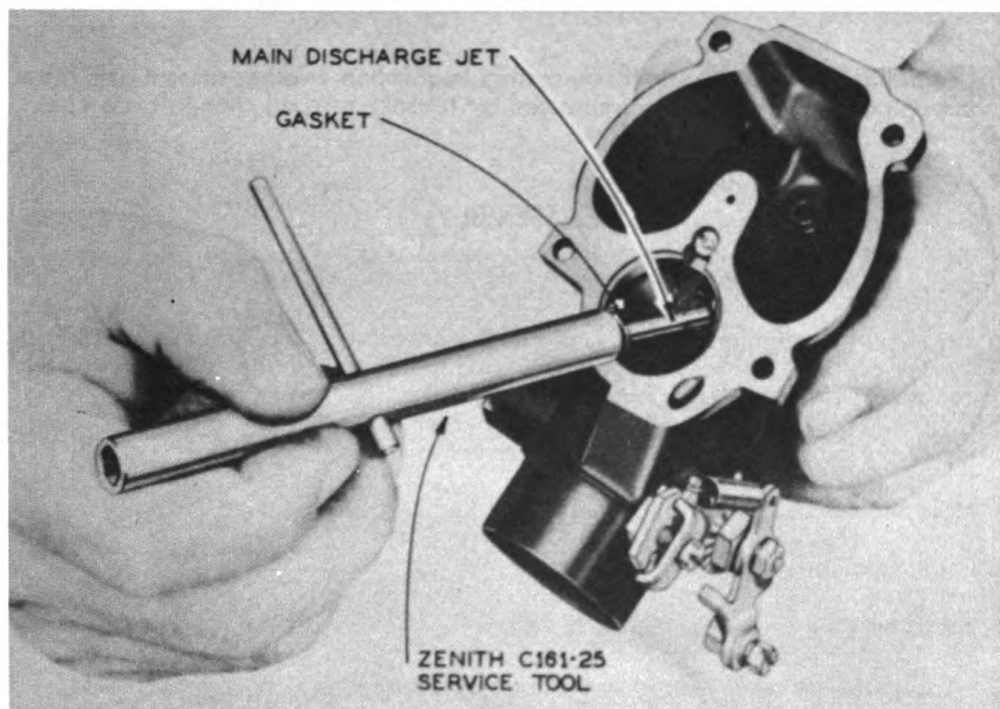

Fig. 110
16. Remove Main Discharge Jet (3) and gasket using C161-25 Service Tool (Fig. 110)
9. Replace Main Discharge Jet (3) and new gasket using C161-25 Service Tool, or screwdriver. (Fig. 110)